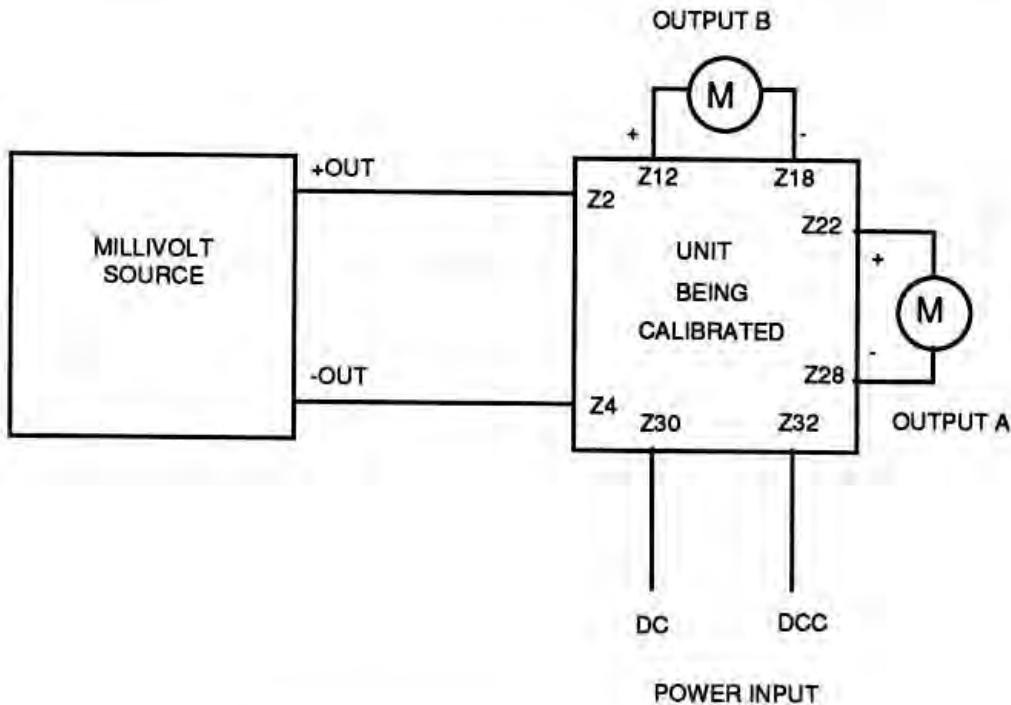

Figure 2. Calibration Setup for MVT-EU
Off-line calibration for all MVT-EU units requires the same test equipment setup regardless of the physical configurations or types of options used. Refer to the test equipment setup for unit calibration as shown in figures 2 and 3.
1. Connect the unit and test equipment as shown in figure 2. Adjust the millivolt source for zero output.